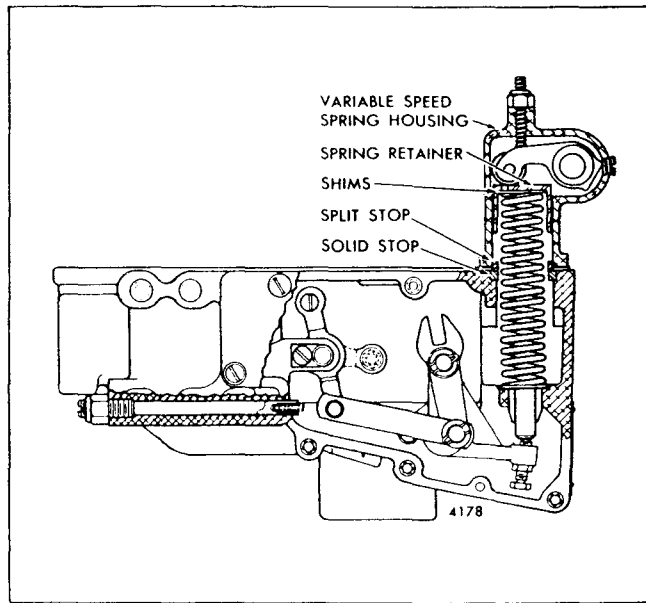

Fig. 11 - Location of Shims and Stops
3. Refer to the following table and determine the stops or shims required for the desired full-load speed. A split stop can only be used with a solid stop (Fig. 11).